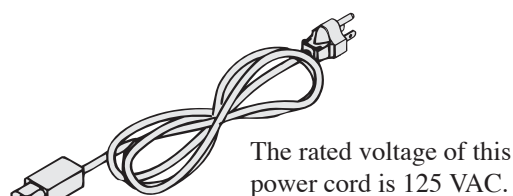

Fig. 1-3 Power cord
- ⚠ WARNING** • The power cord with a three-contact plug shown in Fig. 1-3 (included with a product set up for 100 V system line voltage) has a rated voltage of 125 VAC. If you are to use this product with a 200 V system line voltage, replace this cord with the appropriate power cord.